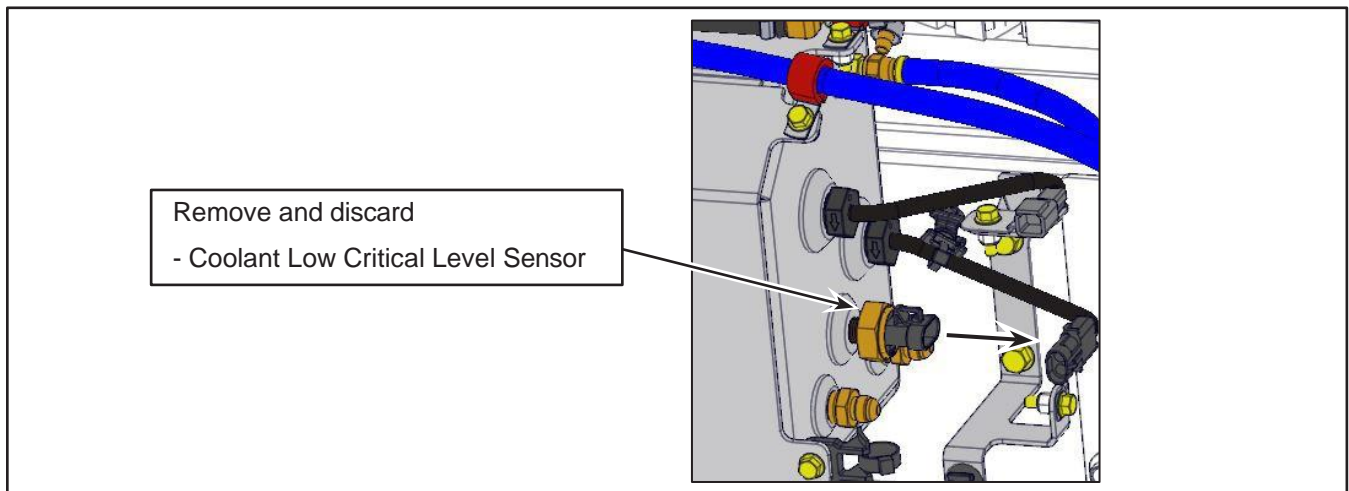

Figure 3 - Disconnect and Remove the Coolant Level Sensor
- 2.1. Disconnect the sensor from the vehicle harness (Figure 3).